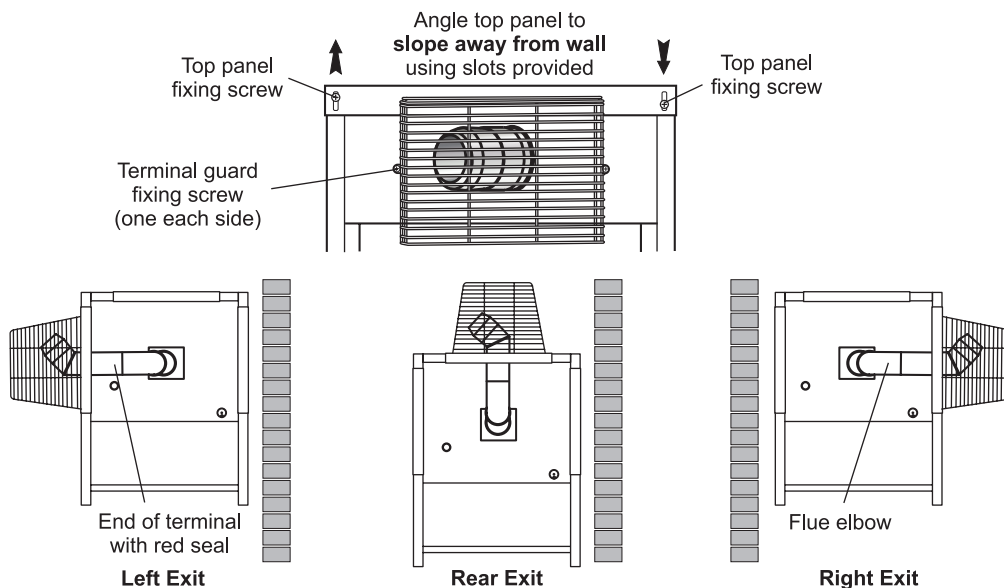

Fig. 13
- 9 The top panel of the casing has been designed so that it may be fitted to create a slight slope away from the side positioned against the wall. To tilt the top panel, loosen the four top panel casing screws, one at each corner and push down on the side furthest from the wall. Tighten the screws. See Fig. 13.